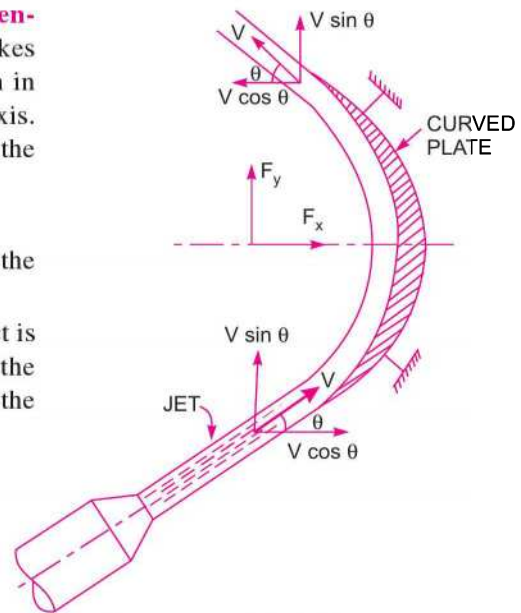

Fig. 17.4 Jet striking curved fixed plate at one end.
-ve sign means that force is acting in the downward direction. In this case the angle of deflection of the jet  $= (180^\circ - \theta)$  ...[17.6 (A)]
**(B) Jet strikes the curved plate at one end tangentially when the plate is symmetrical.** Let the jet strikes the curved fixed plate at one end tangentially as shown in Fig. 17.4. Let the curved plate be symmetrical about  $x$ -axis. Then the angle made by the tangents at the two ends of the plate will be same.